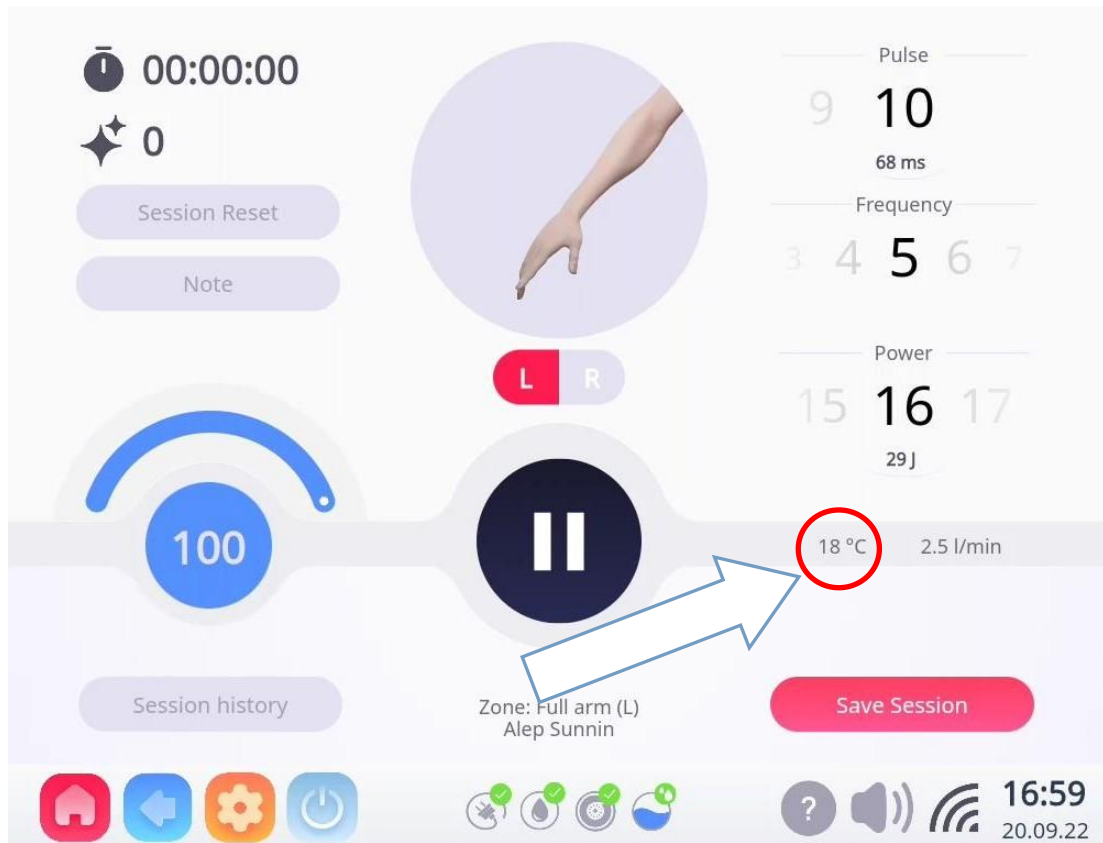

Figure 5.4-26
- Click "Liquid temperature" to turn on and off the monitoring function of the water temperature of the device, which is reflected in this position (see Figure 5.4-26). When the water temperature reaches the value set by "Device locking when reaching the maximum temperature" (the default setting is 40°C), it will automatically stop working and will not be able to emit light, but it will not be powered off. It can work again after the water temperature drops. The factory default is on.